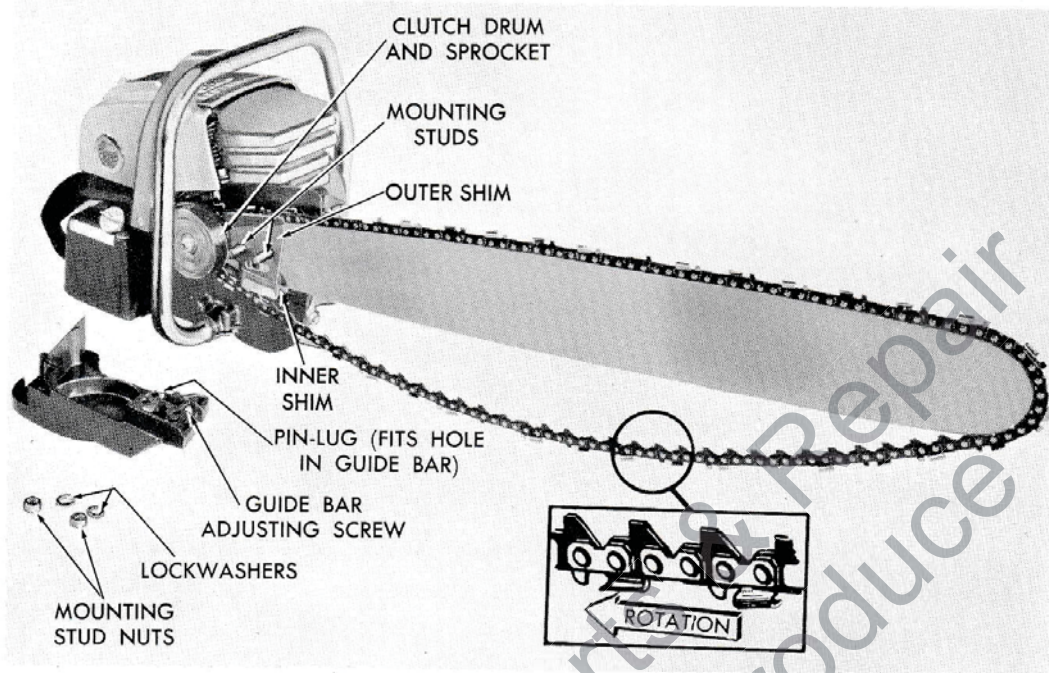

Figure 2—Assembling Bar and Chain
a. Assembling Bar And Chain (See Figure 2)
- (1) The engine carton contains a combination tool with which to assemble bar and chain and adjust the chain tension.
- (2) Remove the two stud nuts and lock washers and lift the drive case cover off the mounting studs. Remove outer guide bar shim but leave inner shim on the studs.
- (3) Before assembling, be sure that the chain drive sprocket and chain are of equal pitch.
- (4) Be sure the inner guide bar shim is on the mounting studs, then put the guide bar on the studs, over the shim. The chain must be assembled on the
saw so the cutting edges of its teeth face in the direction of chain rotation, as shown in Figure 2.